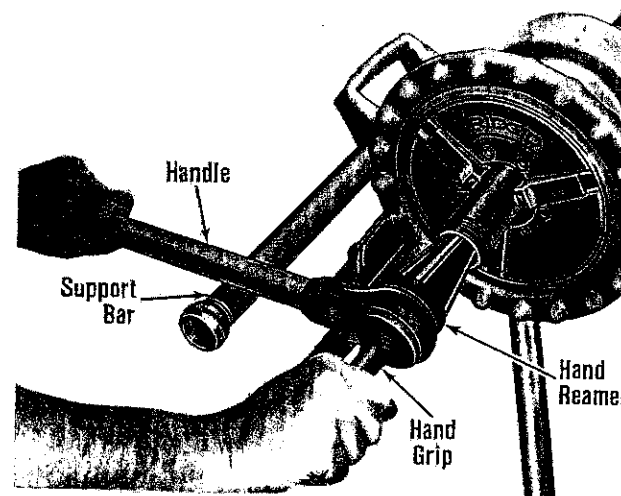

Figure 12. Reaming Pipe with Reamer.
2. Insert Reamer into end of pipe and hold firmly onto Handle and Handgrip (Fig. 12).
3. Step on Foot Switch and push on Reamer Handgrip (Fig. 12) with right hand to ream pipe.